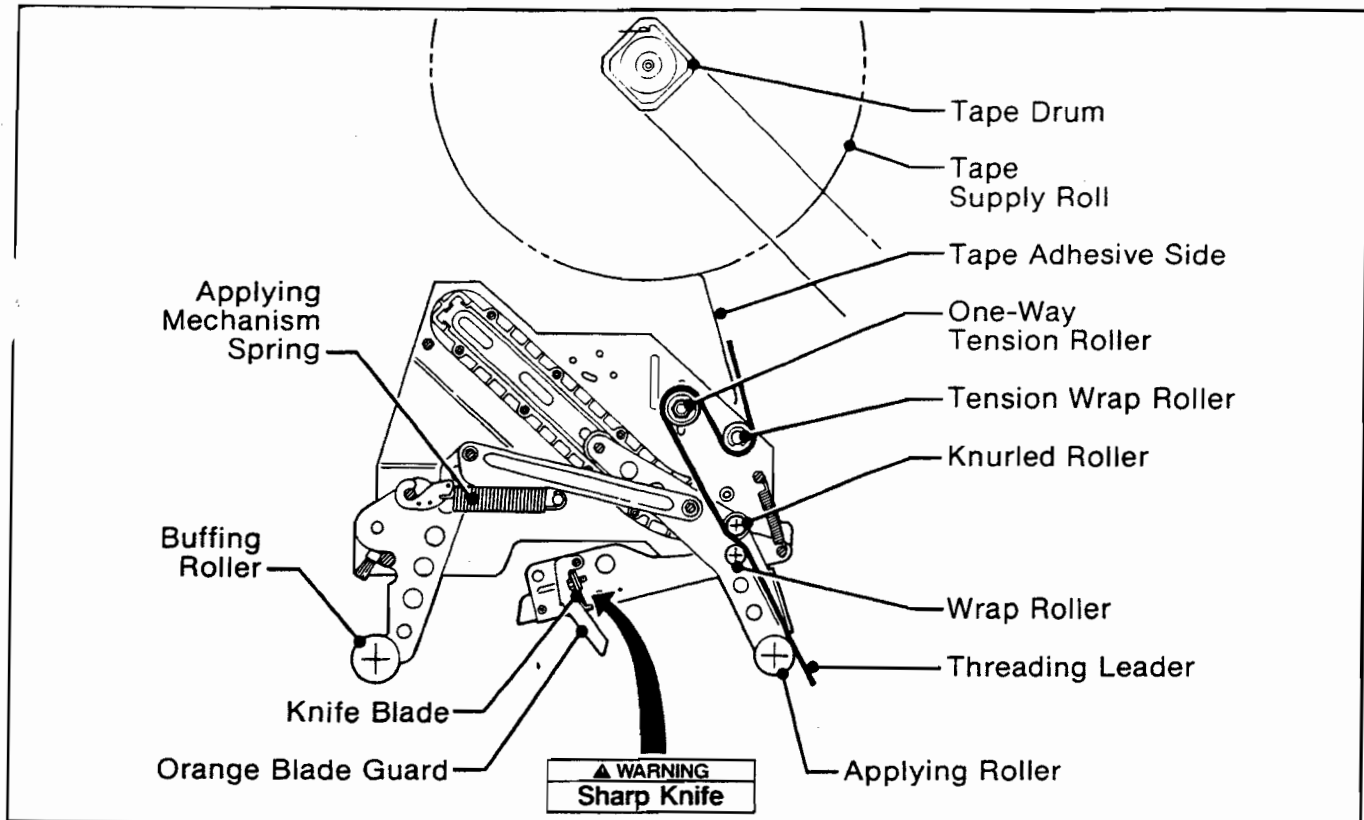

Figure 2-4 - Tape Threading Diagram 800a/800a3 - Upper Taping Head - Left Side View
1. BOTH THE UPPER AND LOWER TAPING HEADS UTILIZE EXTREMELY SHARP KNIFE BLADES. THE BLADES ARE LOCATED UNDER THE ORANGE BLADE GUARD WHICH HAS THE "WARNING - SHARP KNIFE" LABEL. BEFORE WORKING WITH THE TAPING HEADS OR ATTEMPTING TO LOAD THE TAPE, REFER TO FIGURES 2-4 AND 2-5 AND IDENTIFY THE BLADE LOCATION. KEEP HANDS OUT OF THESE AREAS EXCEPT AS NECESSARY TO SERVICE THE TAPING HEADS.
The applying mechanism spring, shown in Figures 2-4 and 2-5, controls applying and buffing roller pressure on the box and returns the mechanism to the reset position. The spring pressure setting, as shown in Figure 3-3A, is for normal operation but is adjustable.